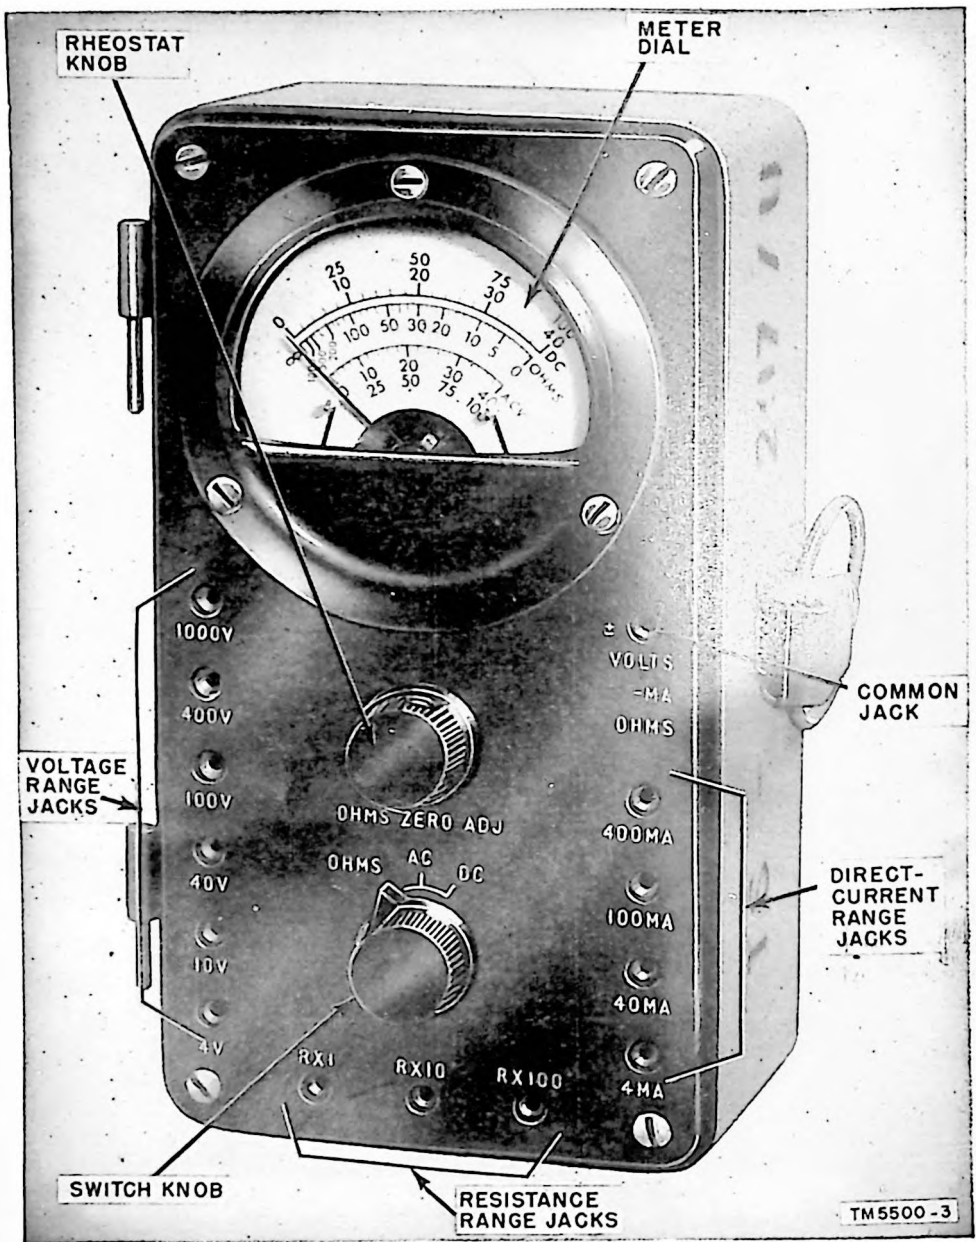

Figure 3. Multimeter, view of panel face.
(1) *Panel* (fig. 3). All electrical components of the unit except the battery holder are mounted on the under side of the panel. On the face of the panel are a meter dial, 2 knobs, and 14 pin jacks.
9. Ohms Zero ADJ Knob (fig. 3)
10. Ohms AC DC Knob (fig. 3)
11. Jacks (fig. 3)